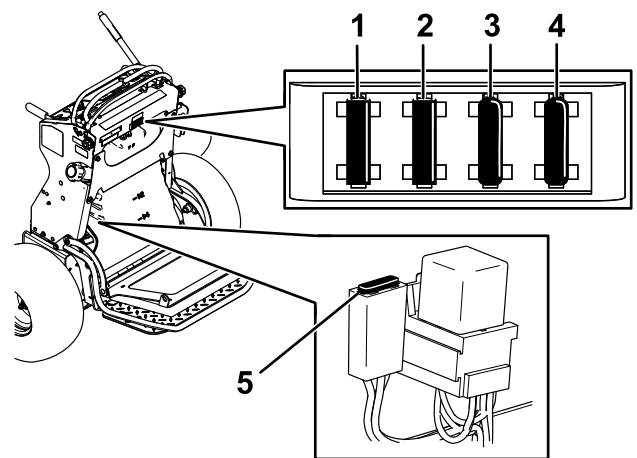

Figure 56
5. Pull out the fuse and replace it (Figure 56).